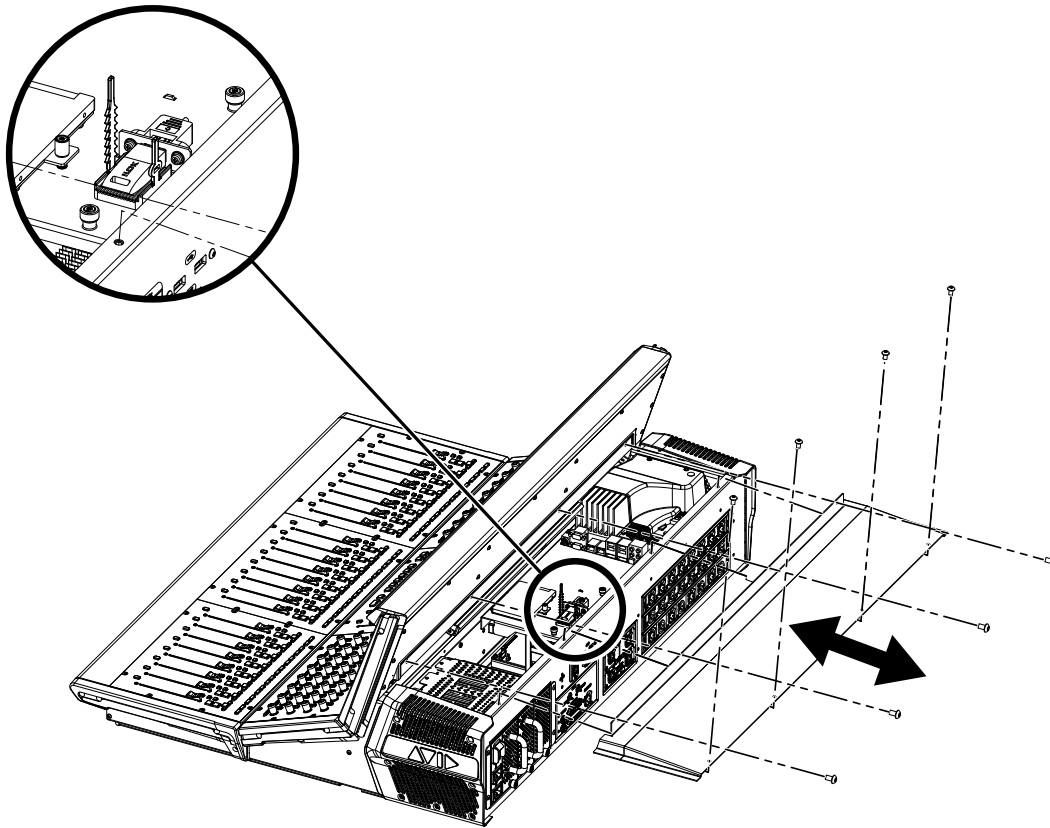

Figure 4. S6L control surface secure USB port (S6L-24D shown)
- 2 Using a 2.5 mm hex wrench, remove the 8 screws that secure the back cover of the control surface, as indicated in Figure 4, and set the screws aside. (On S6L-16C, only, there are 6 screws to remove.)